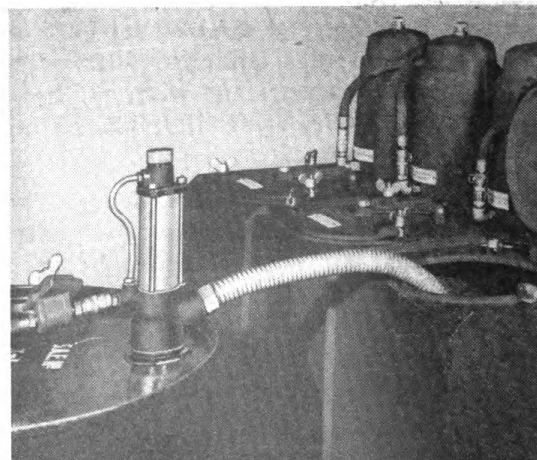

Figure 6
3. CAUTION: Make sure that lubricant tank compartments are 100% clean, and then fill (See Figure 6) with CLEAN lubricants of the types indicated on the name plates. Keep tank covers tightly